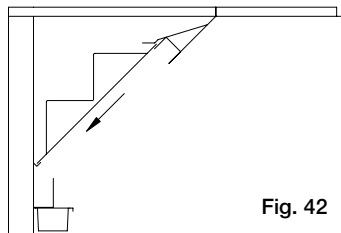

Fig. 42
3. When the filter is even with the bottom rear filter channel, set the filter into the channel; Fig. 42.